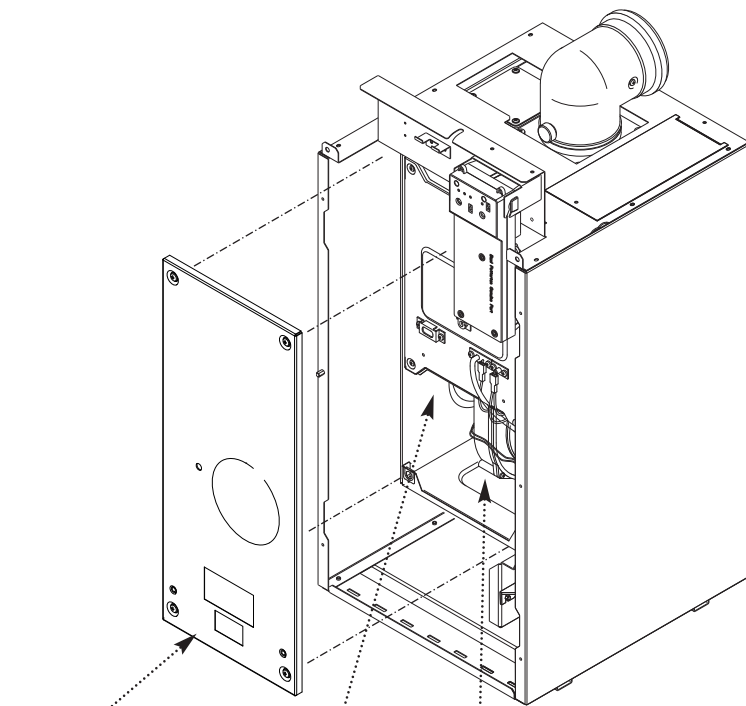

Fig. 50
1. Remove the airbox door panel by loosening the four  $\frac{1}{4}$  turn screws (Fig. 50).